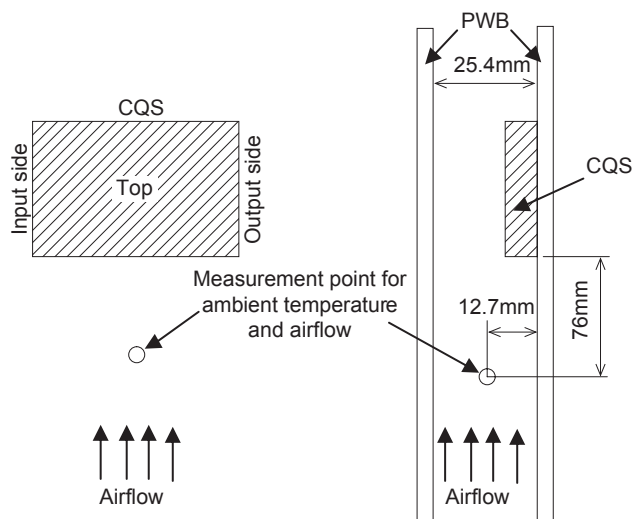

Fig.8.26 Measuring method
■ Shown the thermal curve with measuring as shown in Fig.8.26.